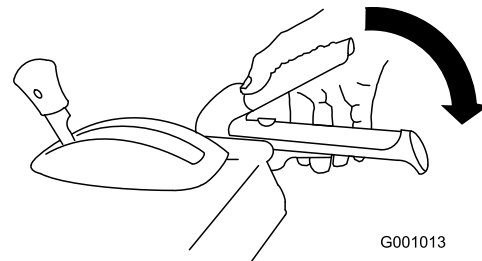

Figure 39
- To engage the auger/ impeller drive, squeeze the right hand (auger/ impeller) lever to the handgrip (Figure 39).